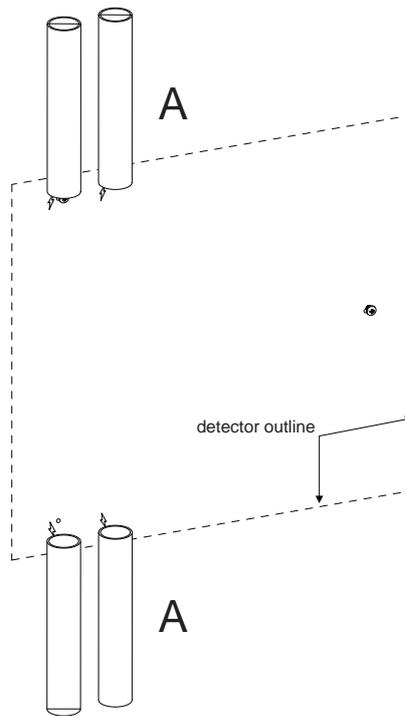

Figure 4-10: Cut the electrical conduit
4. Position the electrical conduits (A) on the marked center lines (Figure 4-10).